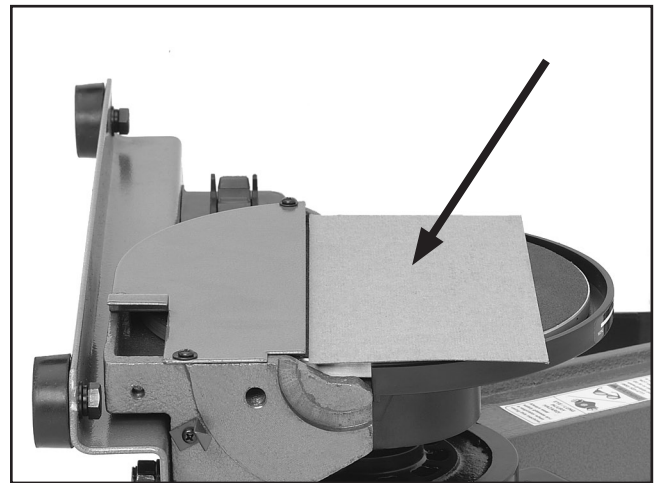

Figure 15. Using thin cardboard (approximately $\frac{1}{16}$ " thick) for table and sanding disc clearance gauge.
15. Lay the sander down on a flat surface, as shown in **Figure 15**, and place a thin piece of cardboard approximately $\frac{1}{16}$ " thick over the sanding disc. This piece of cardboard will act as a spacer when you install the disc table.